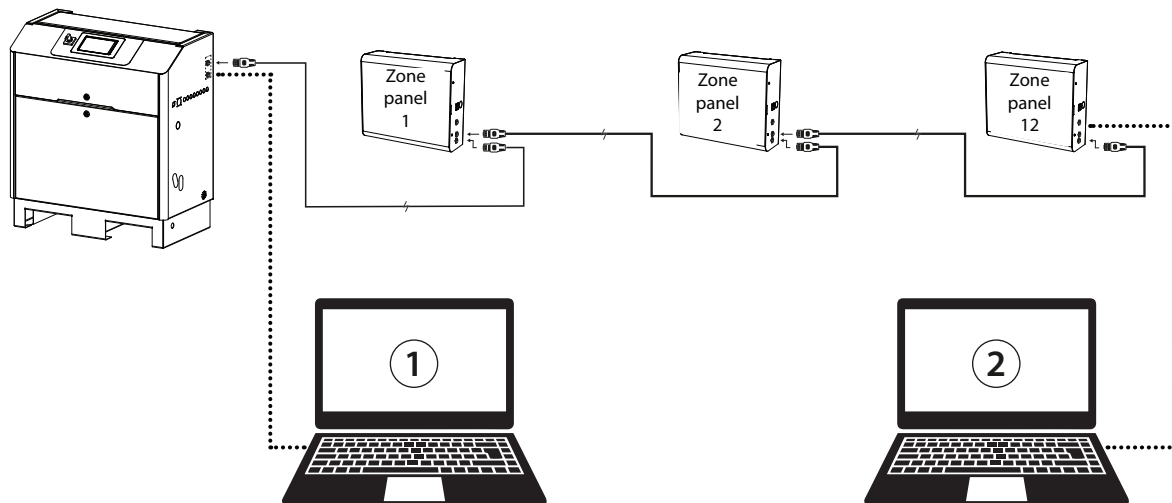

Fig. 9.a
The local network connection is made using an Ethernet cable. Two different connection modes are available (see Fig. 9.a):
- a free port on the pumping station (1 - Fig. 9.a)
- a free port on the last zone panel in the network (2 - Fig. 9.a)